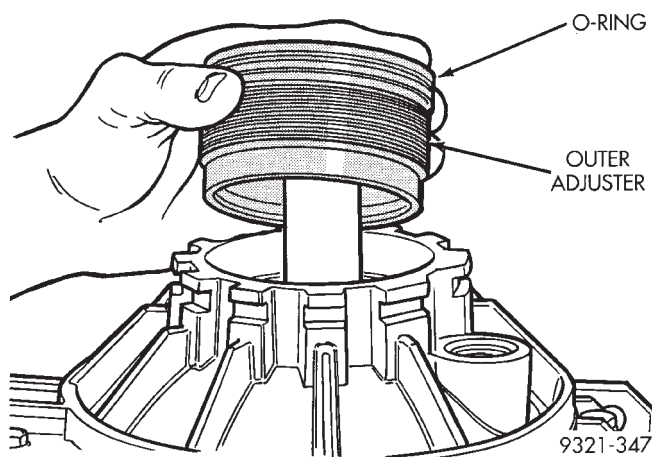

Fig. 319 Outer Adjuster Installation
(28) Screw on outer adjuster and tighten adjuster down finger tight (Fig. 319).